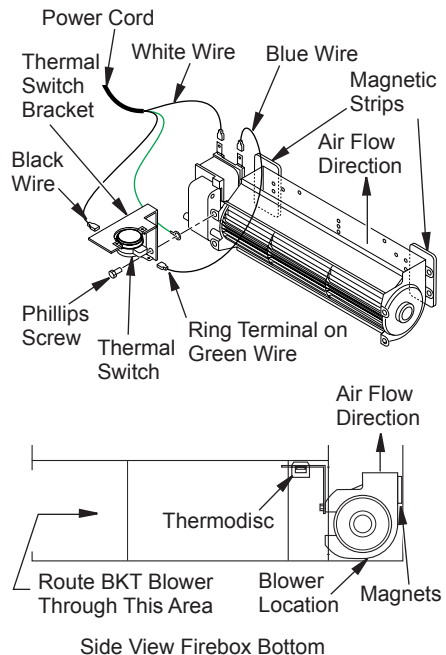

Figure 28 - Blower Model BKT
- Place the green ground wire with ring terminal between the bottom hole on the thermal switch bracket and the top ear hole on the blower assembly. Insert the phillips screw into all three pieces and tighten securely (see Figure 28).
- Place the blower against the lower rear wall of the firebox outer wrapper with the exhaust port directed upward and the thermodisc positioned up near the fireplace bottom. The thermodisc must be oriented near the fireplace bottom as shown in Figure 28 in order to sense temperature and properly operate. The blower will be held in position against the back wall by the magnets incorporated onto the blower housing (see Figure 28).